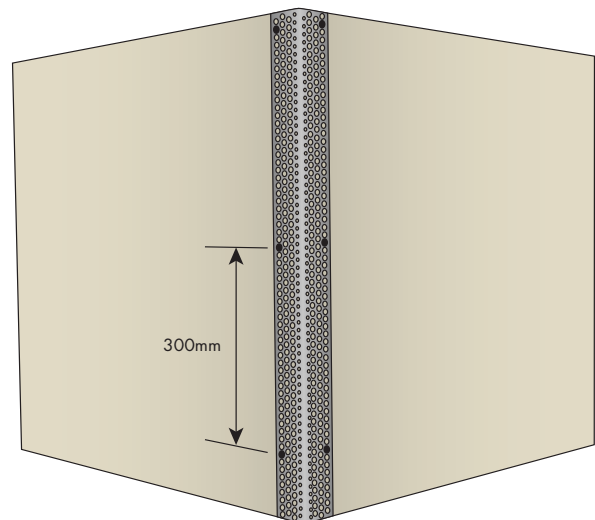

FIGURE 12 Corner Bead on External Corner
- Position a corner bead ensuring that it is plumb and straight. [Refer to Figure 12]